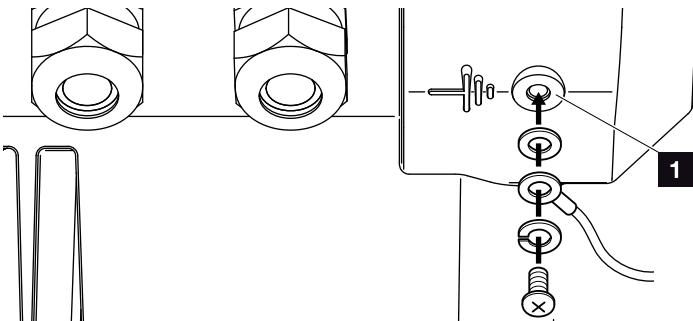

Fig. 33: Country-specific PE connection
9. In countries in which a second PE connection is prescribed, connect this at the marked place on the housing (inside or outside) with the prescribed torque of 3 Nm (M6). **!** **Fig. 33, It. 1**